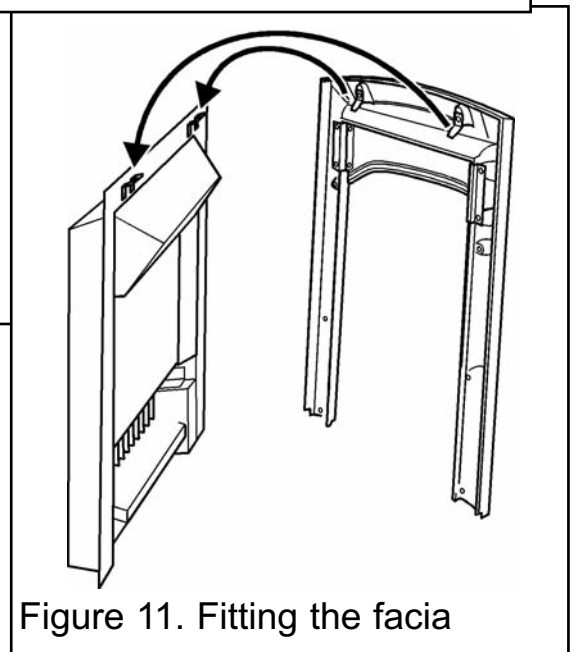

Figure 11. Fitting the fascia
1. Fit the fascia to the heater by hooking the brackets on the rear of the fascia over the brackets on the heater (See figure 11).